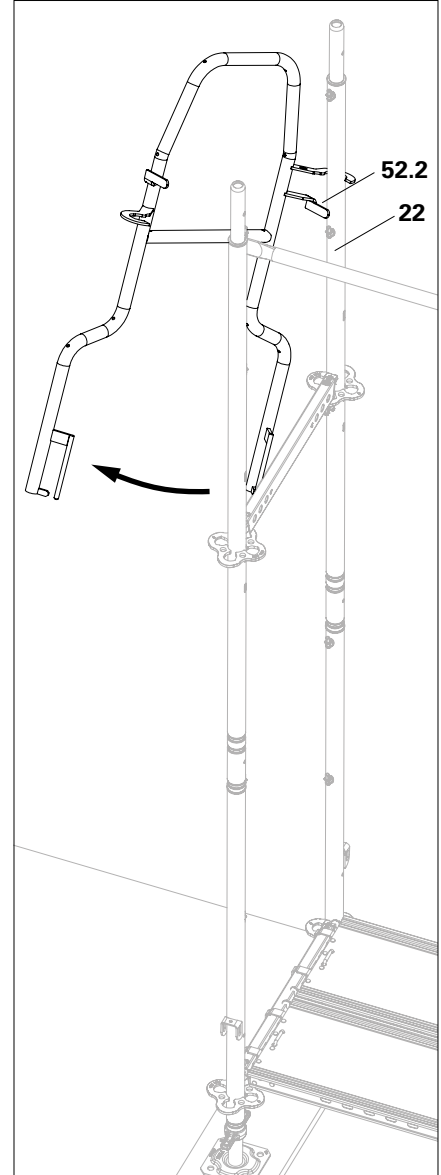

Fig. A3.12b
2. Swing the leading end guardrail to the left so that the fork (**52.2**) engages around the inner tube (**22**). (Fig. A3.12b)